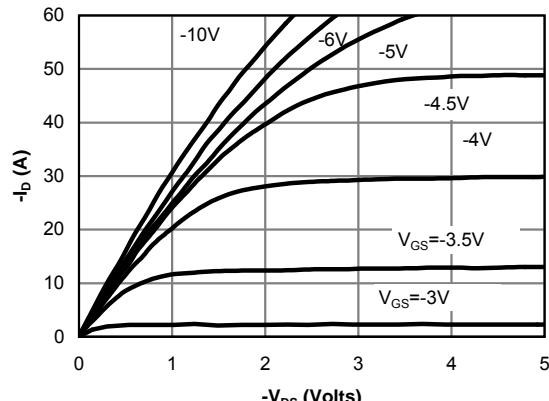

Fig 1: On-Region Characteristics (Note E)
E. The static characteristics in Figures 1 to 6 are obtained using <300  $\mu\text{s}$  pulses, duty cycle 0.5% max.